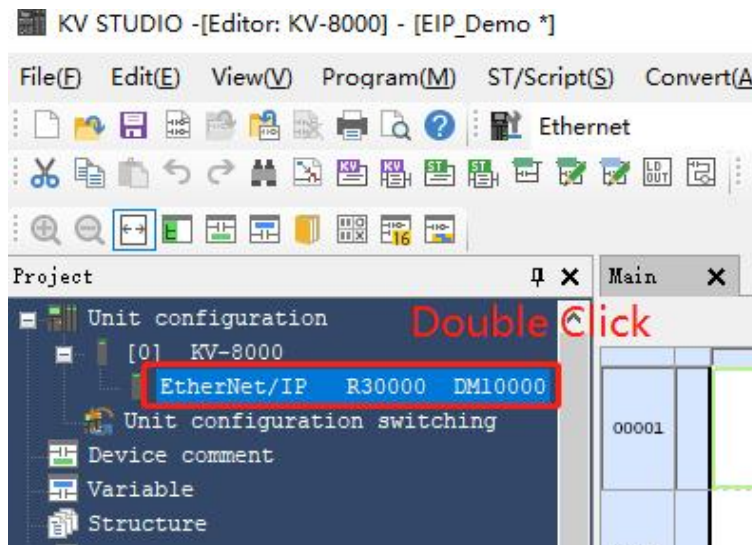

Figure 5-1-12
- Search for the EIP coupler as shown in Figure 5-1-12 to Figure 5-1-16.